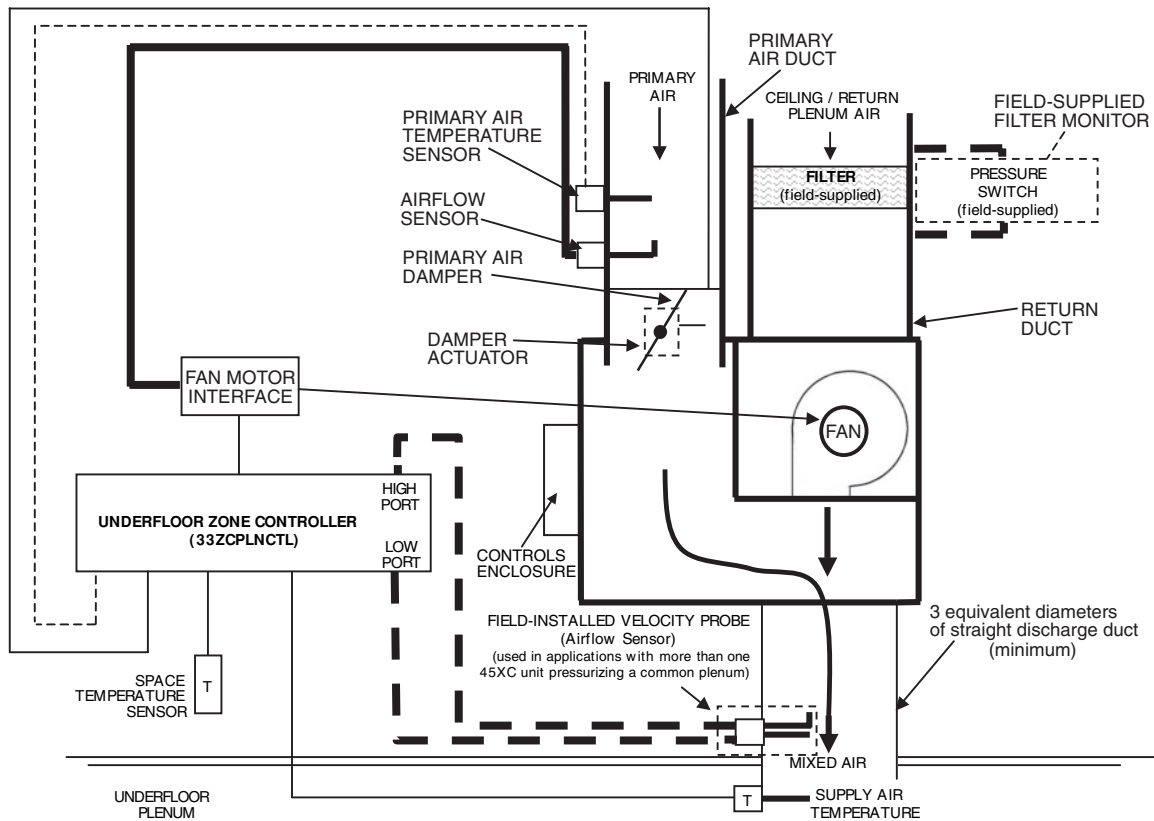

Fig. 2 — Typical Installation for Multiple 45XC Fan-Powered Mixing Units in a Larger Common Underfloor Zone (One 45XC Unit Shown)
*Installation is shown for a single unit in a multiple unit/common plenum application. High and low pressure ports piped to a discharge plenum. Refer to Fig. 2.